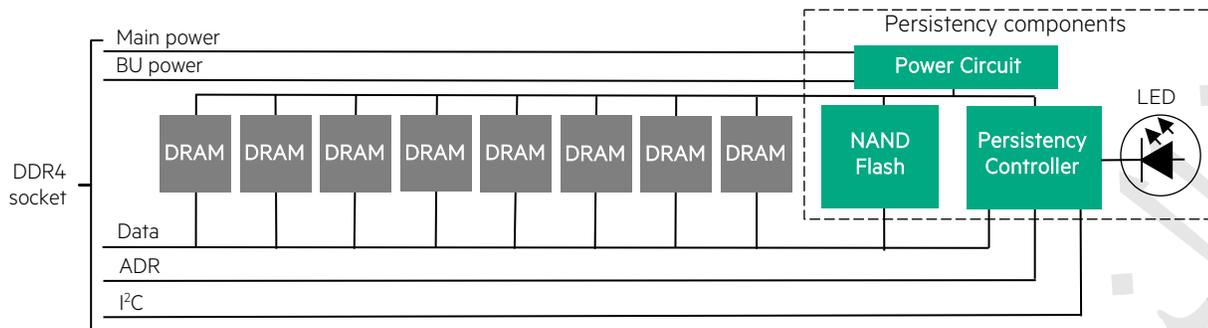

Figure 2. NVDIMM architecture.
The HPE NVDIMM combines standard DRAM-based system memory with NAND flash-based Persistency Components to achieve both high performance and power-off storage persistency (Figure 2). HPE NVDIMMs install in HPE server DDR4 memory sockets that include the I²C bus, the Asynchronous DRAM Refresh (ADR) signal, and both main and backup (BU) power busses.